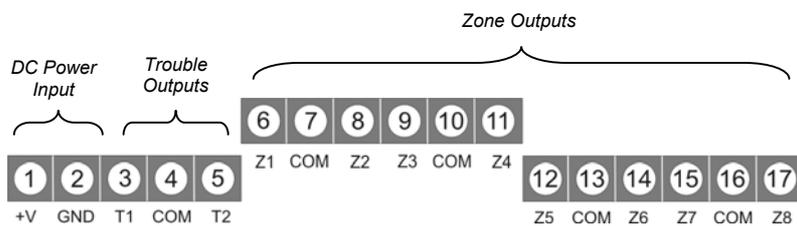

Figure 6: Terminal Blocks
3. Temporarily apply 9-13.8VDC to the power input terminals in order to register the transmitters to the receiver – see *Figure 6: Terminal Blocks* and *Table 1: Terminal Block Connections*.